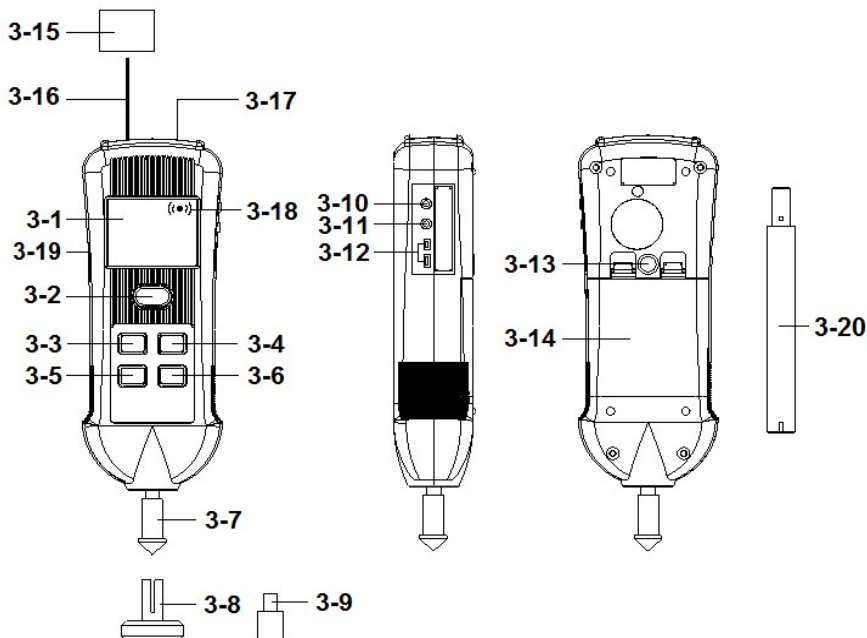

Fig. 1
- 1) Power On the meter by pressing and hold the " Power button " ( 3-2, Fig. 1 ) >1.5 seconds , the LCD will light.
- 2) Press the " Function button " ( 3-6, Fig. 1 ) once in sequence until to the " Photo RPM " function be selected, in the same time the " Photo light beam " ( 3-16, Fig. 1 ) will be generated.
- 3) Apply a " Reflecting mark " ( 3-15, Fig. 1 ) to the object being measured. and align the " Photo light beam " ( 3-16, Fig. 1 ) with the applied target. Verify that the " Monitor Indicator " ( 3-18, Fig. 1 ) lights when the target pass through the light beam.
- 1) Power On the meter by pressing and hold the " Power button " ( 3-2, Fig. 1 ) >1.5 seconds, the LCD will light.
- 2) Press the " Function button " ( 3-6, Fig. 1 ) once in sequence until to the " Contact RPM " function be selected.
- 3) Lightly pressing the " RPM Adapter " ( 3-7, Fig. 1 ) against the center hole on the hole of the measured rotating axis.
Making the contact RPM measurement due to different kind measured rotating axis, it may changed the rubber for RPM adapter from " CONE " type to " FUNNEL " type ( 3-9, Fig. 1 )
- 1) Power On the meter by pressing the " Power button " ( 3-2, Fig. 1 ) > 1.5 sec., the LCD will light.
- 2) Short Press the " Function button " ( 3-6, Fig. 1 ) once again and again until lcd display show the " touch " text, then short press the "UNIT Button" to select the Surface Speed Measurement unit " m/min ", " ft/min " or " in./min. ".
- 3) Change the " RPM Adapter " instead of the " Surface Speed Test Wheel " ( 3-8, Fig. 1 ).
- 2) Press the " Function button " ( 3-6, Fig. 1 ) once in sequence until to the " SCOPE RPM " function be selected, in the same time the " Stroboscope flash light (red) indicator " (3-17, Fig. 1 ) will be Light.
Use the " x 2 button(▲ button) " ( 3-3, Fig. 1 ) or " / 2 button(▼ button) " ( 3-5, Fig. 1 ) to adjust the display value near the estimate setting signal's RF approximately..
- 1) Use the " ▲+ button " ( 3-3, Fig. 1 ) , " ▼ - button " ( 3-5, Fig. 1 ) to adjust the exact display value.
- 2) Press the " Function button " ( 3-6, Fig. 1 ) (short push) in sequence until to the " TYPE k " function be selected.
- 3) type k probe inserted into the thermocouple probe terminal " thermocouple probe terminal " ( 3-12, Fig. 1 ).
- 2) Press the " Function button " ( 3-6, Fig. 1 ) (short push) in sequence until to the " P t " function be selected.
- 3) TP-1000 probes are connected to the pt 1000  $\Omega$  probe terminal " ( 3-11, Fig. 1 ).
Press the " REC Button " ( 3-4, Fig.1 ) once to start the Data Record function and there will be a " REC "Symbol indicator "
- a) Press the " REC Button " ( 3-4, Fig. 1 ) once, the "
- b) Press the " REC Button " ( 3-4, Fig. 1 ) again, the
press the " FUNCTION (SET) Button " ( 3-6, Fig. 1 ) continuously at least Five seconds will enter the " Advanced Setting " mode. then press the " FUNCTION (SET) Button " ( 3-6, Fig. 1 ) once a while in sequence to select the two main function, the display will show :
- 1) Use the " ▲ button " ( 3-3, Fig. 1 ) or " ▼ button " ( 3-5, Fig. 1 ) to select the upper text to " yES " or " no ".
- 2) After select the text to " yES " or " no ", press the " REC(Enter) Button " ( 3-4, Fig.1 ) will save the setting function with default.
- 1) Use the " ▲ button " ( 3-3, Fig. 1 ) or " ▼ button " ( 3-5, Fig. 1 ) to select the upper Display text to " C " or " F ".
- 2) After Display unit is selected to " C " or " F ", press the " REC(Enter) Button " ( 3-4, Fig.1 ) will save the setting function with default.